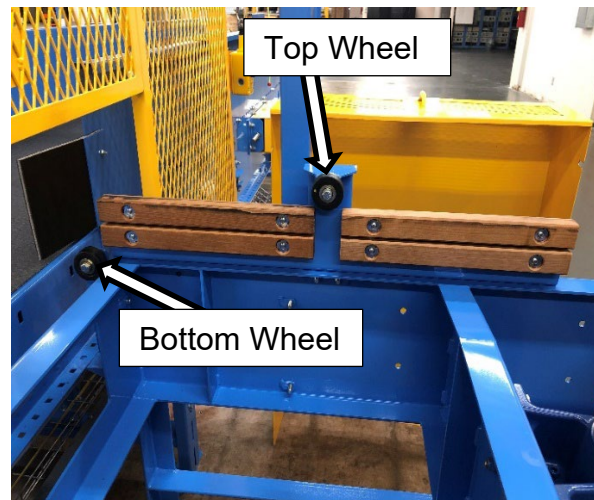

Figure 10. Pusher Frame Assembly Wheels – Blade Removed
8. Check the top and bottom wheels on each side by manually rotating each wheel (Figure 10). There are two wheels (PSN 5340-09-000-8999) on each side of the pusher frame assembly.